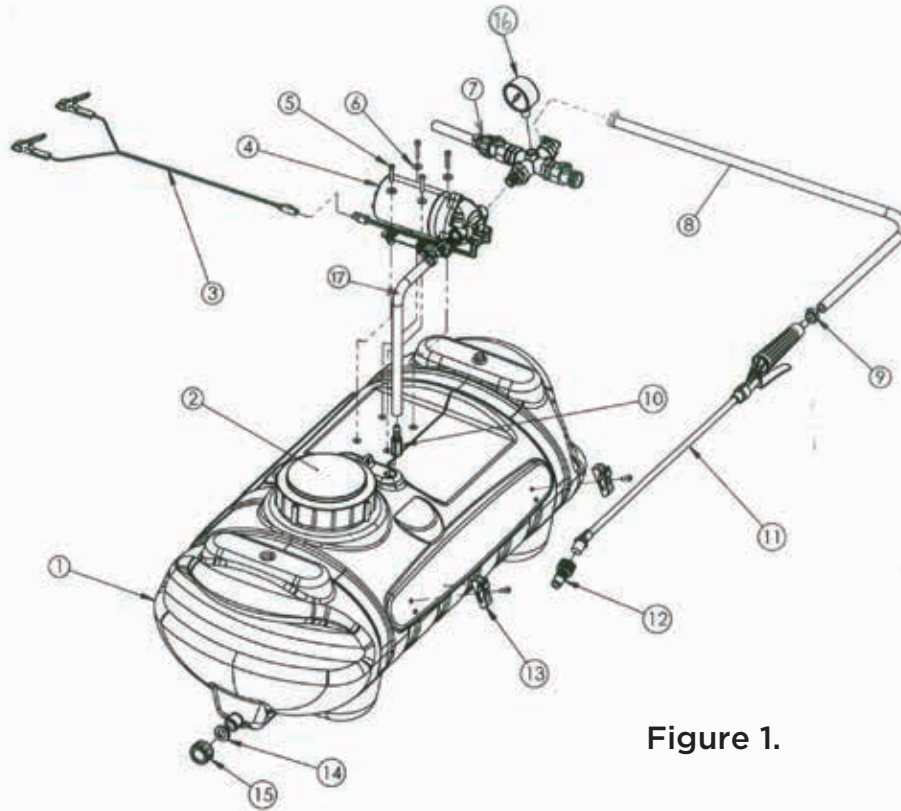

Figure 1.
- 1.) Attach spray gun to manifold by pushing over 3/8" hose barb and fasten with hose clamp (PN SHC-F), see figure 1.